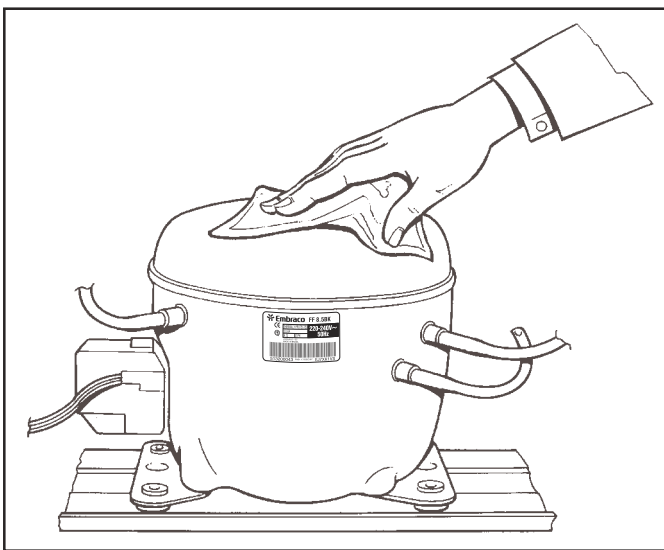

Figure 1
- 1) Make certain both contact surfaces are clean. The evaporation tray will be fixed (fastened) to the compressor with two strips of double-sided adhesive tape, and in order to obtain good adhesion, all contact surfaces (compressor and tray) must be clean, free from dust, humidity and grease (figure 1).